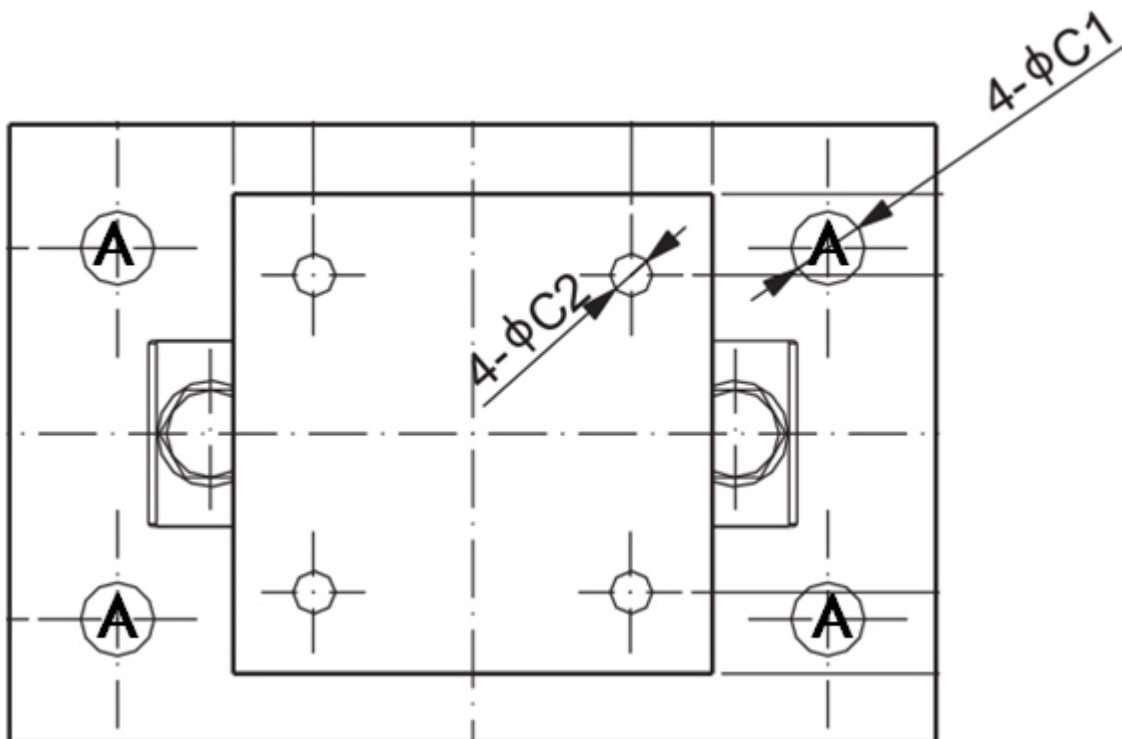

Figure 15: RSLC-25 Plate Dimensions
1. Figure 15 illustrates the RSLC-25 plate. Drill four holes into the concrete base as indicated (A).